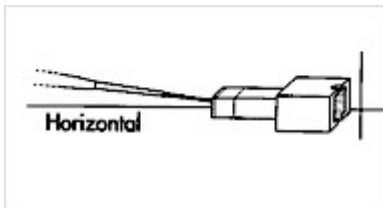

Figure 4: Remove excess running buffer.
16. Immediately, holding the GeneCAPSULE™ horizontal, insert the provided pipette tip, until you reach the gel piece and remove the free TAE buffer from the Gel-PICK™ (Figure. 4). Any buffer left in the Gel-PICK™ will be extracted with the eluted DNA and will result in an increase in the elution volume and dilution of your sample. *Be careful not to hit or disturb the gel piece in the GeneCAPSULE™. If the gel band is disturbed, the DNA in the vicinity of the membrane may flow backward and be lost.*